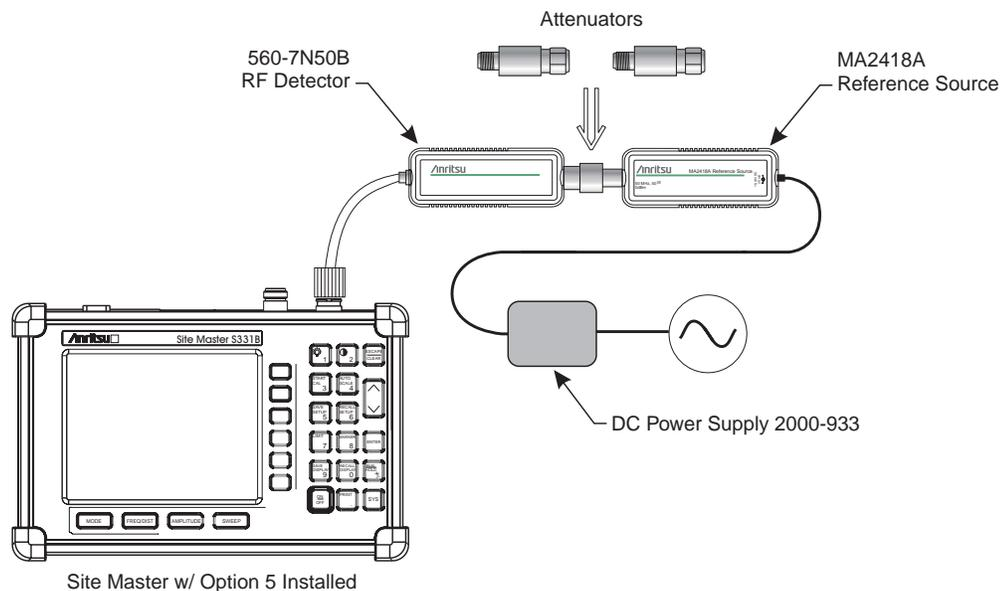

Figure 2. Power Monitor Verification
1. Connect the DC power supply to the MA2418A Reference Source (Figure 2).
10. Connect the output of the MA2418A Reference Source to the two attenuators so as to add 40 dB of attenuation (Figure 2).